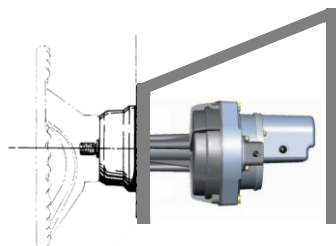

Fig B6 - 90° mounting
- **90° Bezel Kit OC15SUK10:** This kit should be used if the steering wheel is mounted 90° to the dashboard (Fig B6).